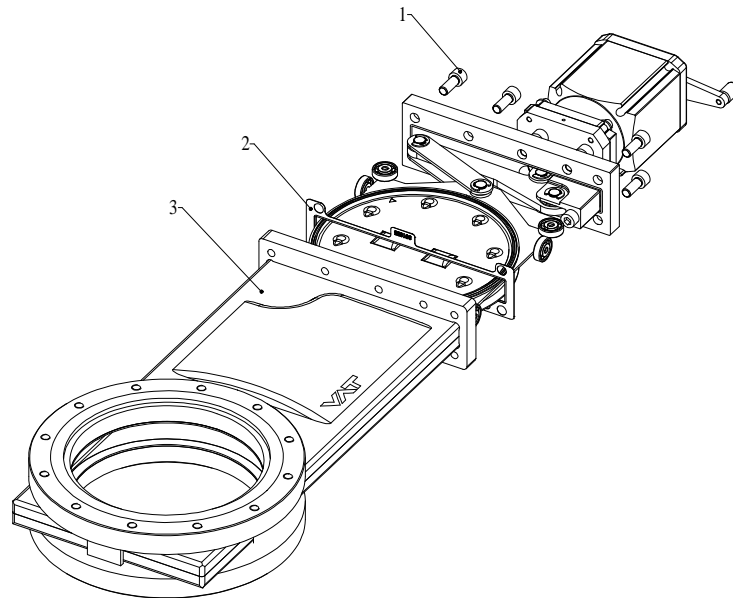

Figure 6-2
4. Remove screws (1) according to «Figure 6-2» on page 15.
5. Lift actuator / mechanism unit carefully from body without touching the body wall; see «Figure 6-2» on page 15. Use only the eyebolt threads; see dimensional drawing.
15. Mount screws (1) according to «Figure 6-2» on page 15.